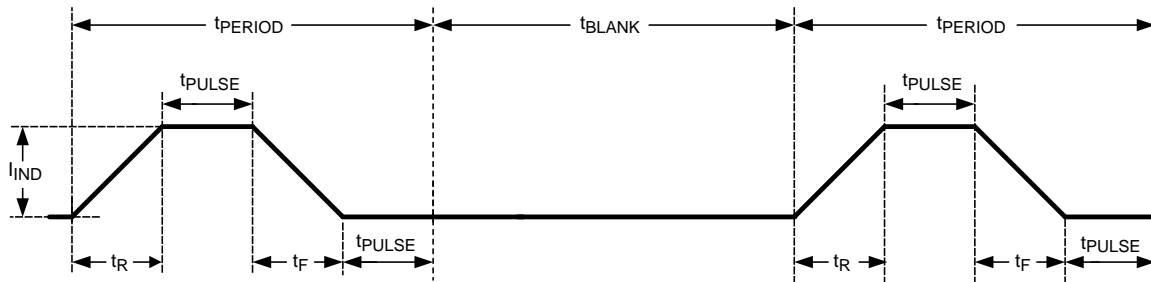

Figure 19. Message Indicator Timing Diagram
- Ramp times for turn-on and turn-off of the indicator current source (see Figure 19 for the message indicator timing diagram).
- (see Figure 19)